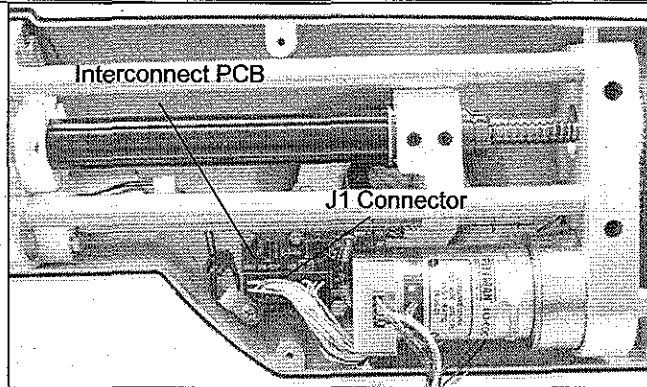

Figure 4-19c: Injector Head Front Enclosure
- b. Remove the Injector Head Rear Enclosure (see Section 5.5.1 – Replacing the Injector Head's Rear Enclosure) and disconnect the 24-pin connector from J1 on the Interconnect PCB (see Figure 4-19c).